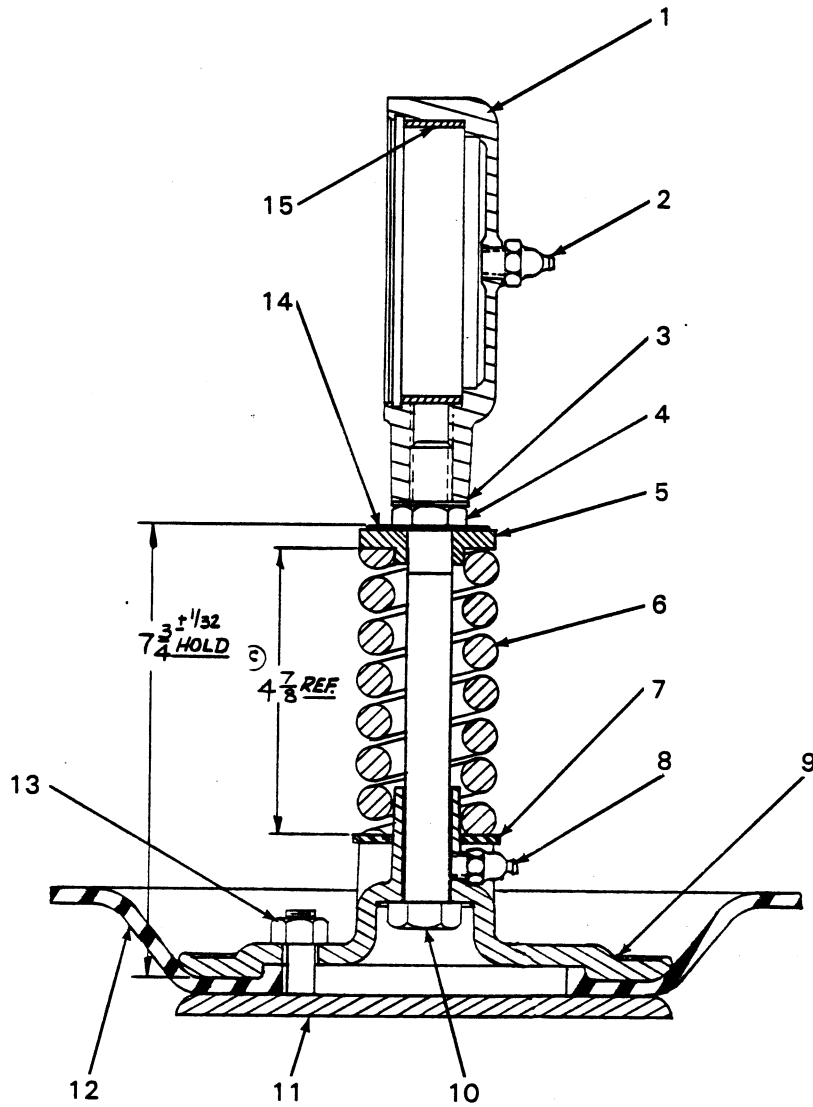

Figure 3. 5685 Plunger Rod Assembly
**Plunger Rod Disassembly (See figure 3)**
#### **Plunger Rod Reassembly (See figure 3)**
Refer to figure 3, and tighten the jam nut until the spring is compressed to 4-7/8 inches. With the spring properly compressed, the distance between the bottom of the upper diaphragm plate and the top of the adjusting shims should measure 7-3/4 inches. Measure this distance, and add or remove adjusting shims until it is correct.